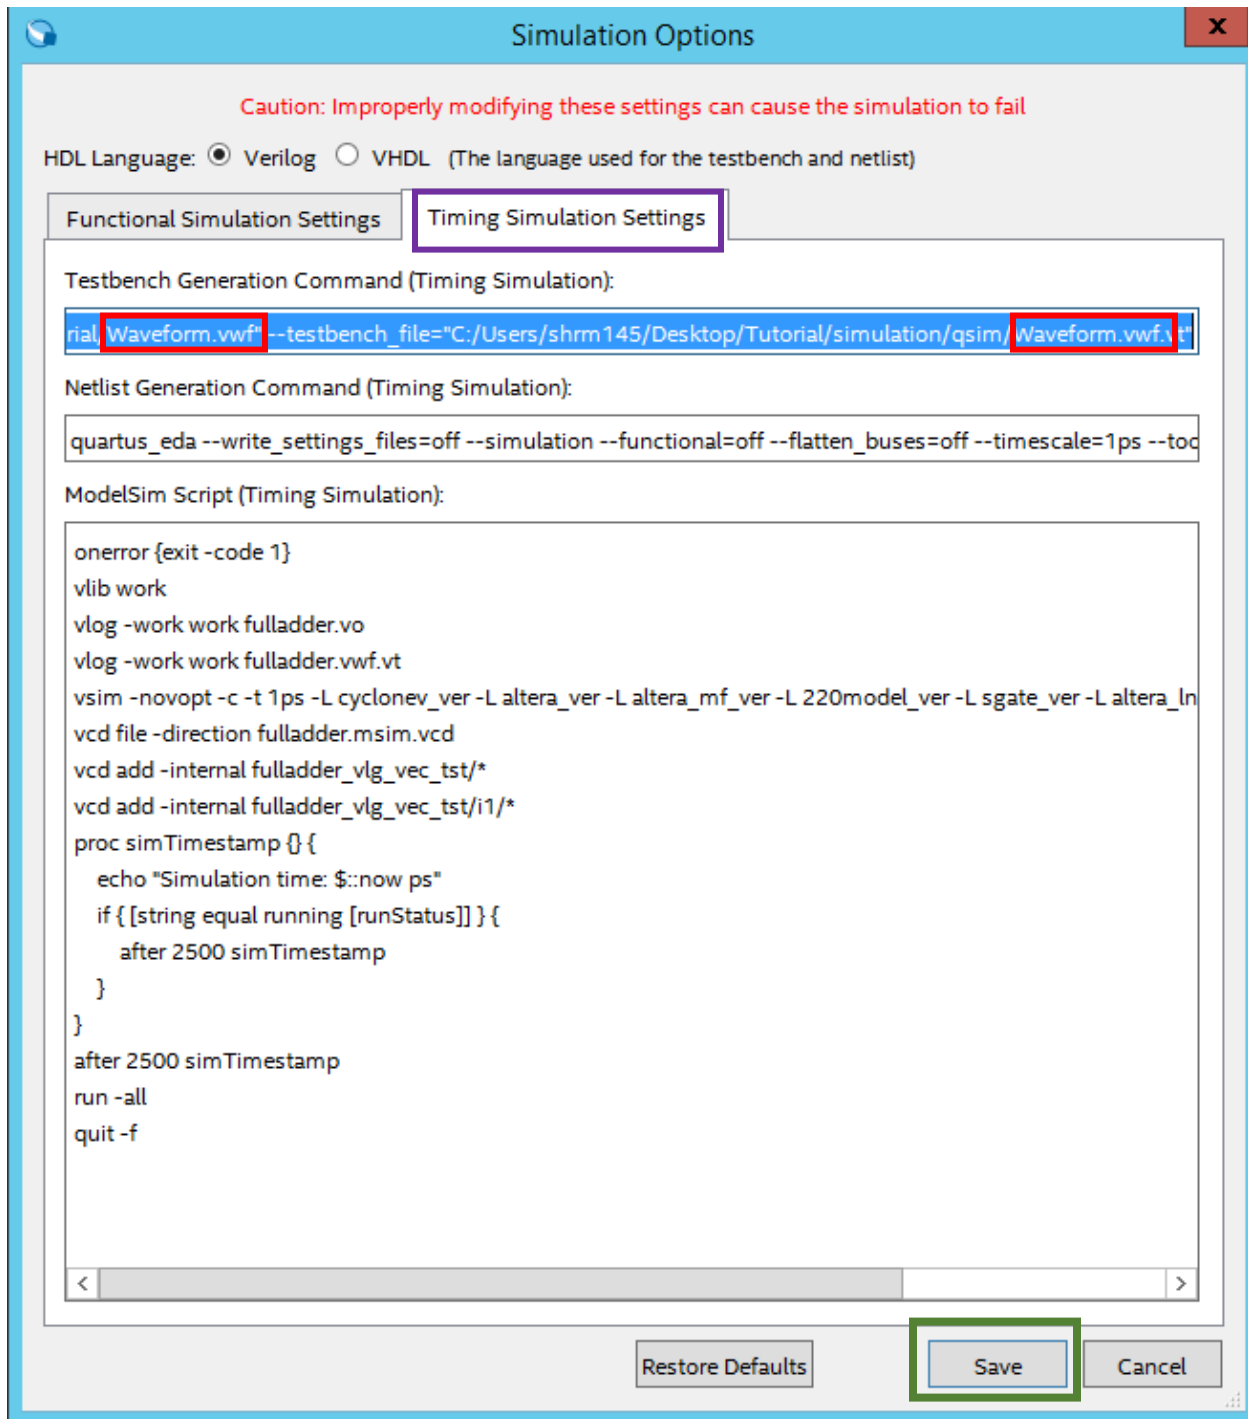

Fig 3: Change the “Waveform.vwf” in the red boxes to “fulladder.vwf”. **DO NOT FORGET** to save your settings by clicking on the “Save” button in the green box
3. Next, go to the **Timing Simulation Settings** and repeat steps 2b. and 2c. and then **SAVE** your changes (See Fig 3).